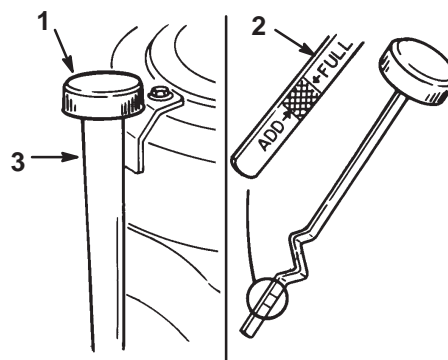

Figure 20
3. Clean around the oil dipstick (Fig. 20) so dirt cannot fall into the filler hole and damage the engine.
4. Unscrew the oil dipstick and wipe the metal end clean (Fig. 20).
5. Slide the oil dipstick fully into the filler tube, do not thread onto tube (Fig. 20). Pull the dipstick out and look at the metal end. If oil level is low, slowly pour only enough oil into the filler tube to raise the level to the “FULL” mark.